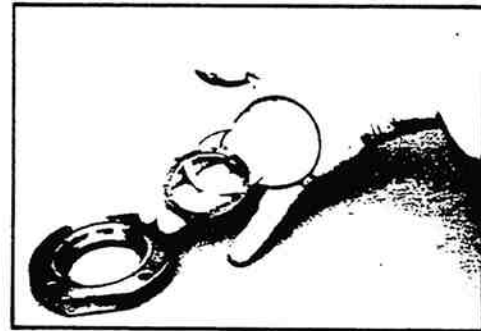

Figure 11-21. Seals and Washers Removal.
17. Remove the trunnion cover O-ring (31) (figure 11-20), the two-piece sector shaft seal (51), and the teflon backup washer (50) from the trunnion cover (49) (figure 11-21). Discard seal, washer and O-ring.